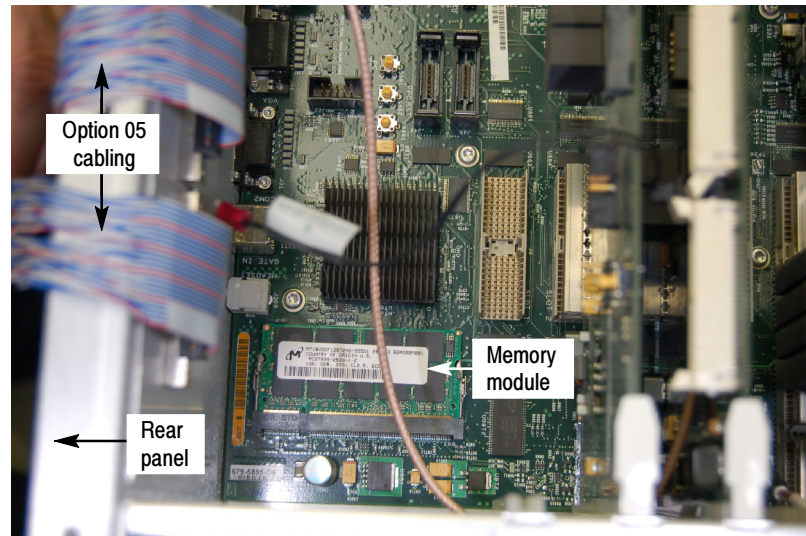

Figure 2: Memory module on Digital Interface board
2. Locate the memory module on the Digital Interface board at the rear of the instrument. See Figure 2.